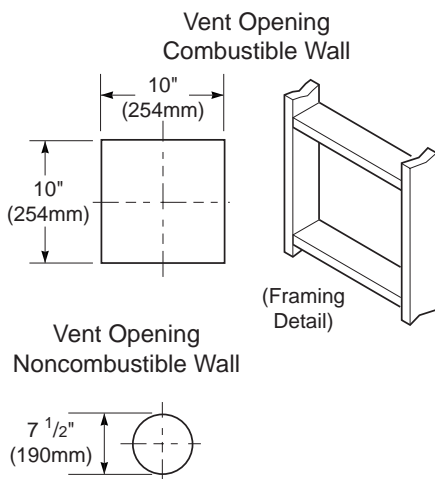
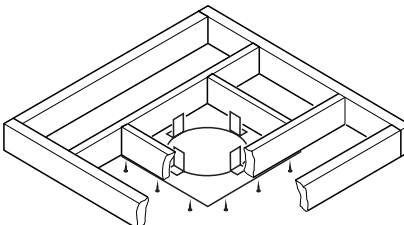

Figure 12 - Vent Opening Requirements
Figure 22 - Installing Firestop
- Attach vent pipe assembly to the fireplace. Set fireplace in front of its permanent location to insure minimum clearances. Mark the wall for a 10" square hole (for noncombustible material such as masonry block or concrete, a 7 1/2" diameter hole is acceptable). See Figure 12. The center of the hole should line up with the centerline of the horizontal rigid vent pipe. Cut a 10"x10" (254mm x 254mm) square hole through combustible exterior wall (7 1/2" [190mm] diameter hole if noncombustible). Frame as necessary (see Figure 12).
- Cut a 10" square hole in the ceiling using the locating hole as a center point. The opening should be framed to 10"x10" (254mm x 254mm) inside dimensions, as shown in Figure 12 on page 9 using framing lumber the same size as the ceiling joists. If the area above the ceiling is an insulated ceiling or a room, nail firestop from the top side. This prevents loose insulation from falling into the required clearance space. Otherwise, install firestop below the framed hole. The firestop should be installed with no less than three nails per side (see Figure 22).
- Cut a hole in the roof using the locating hole as a center point. (Cover any exposed open vent pipes before cutting hole in roof.) The 10"x10" hole must be measured on the horizontal; actual length may be larger depending on the pitch of the roof. There must be a 1" clearance from the vent pipe to combustible materials. Frame the opening as shown in Figure 12 on page 9.